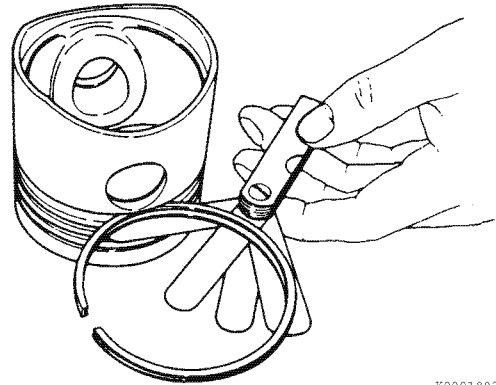

Figure 6-53
9. Place each compression piston ring in the groove as shown (**Figure 6-53**). Use a feeler gauge to measure the clearance between the piston ring and the piston ring land. Record the measurements. See *Piston ring on page 6-10* for specifications. Replace the piston if not within specification.